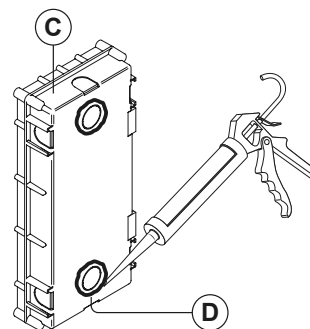

Fig. 65
**Before fitting the flush box (C) into the wall it is recommended that in order to prevent water ingress a silicon sealant is used between the wall and the flush box and around the flush box holes (D) (Fig.65);**